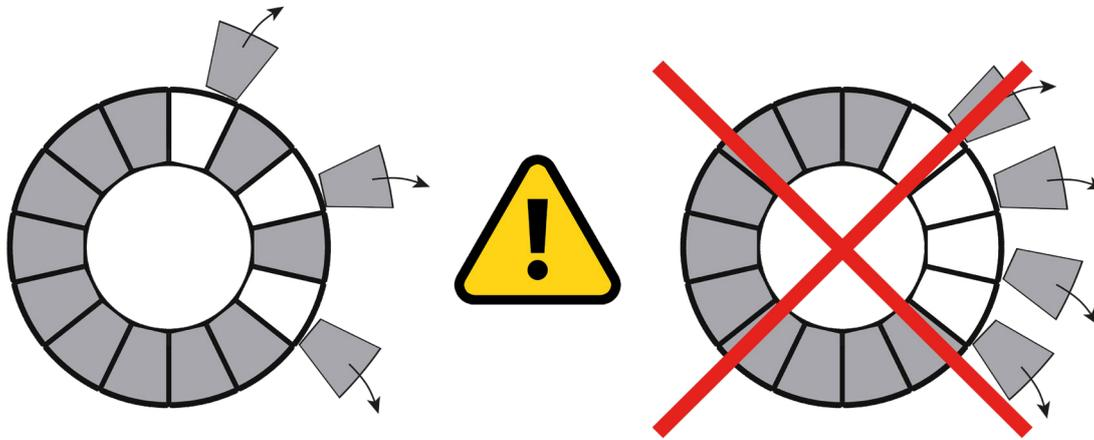

Figure 7.14 Correct way of changing filter panels.
**NEVER** remove or refit all filter panels on just ONE side of the disc (see Figure 7.14).